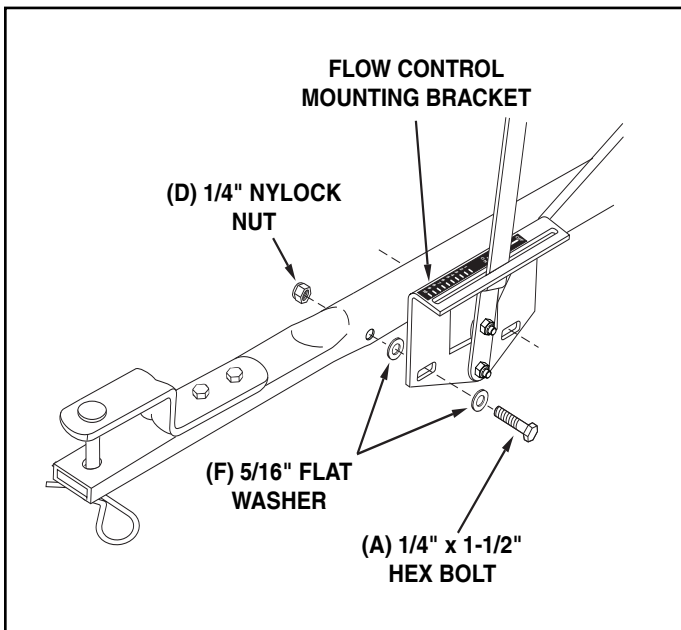

FIGURE 10
19. Assemble the flow control mounting bracket to the hitch tube using two 1/4" x 1-1/2" hex bolts (A), four 5/16" flat washers (F) and two 1/4" nylock nuts (D) as shown in figure 10. **Do not tighten at this time.**